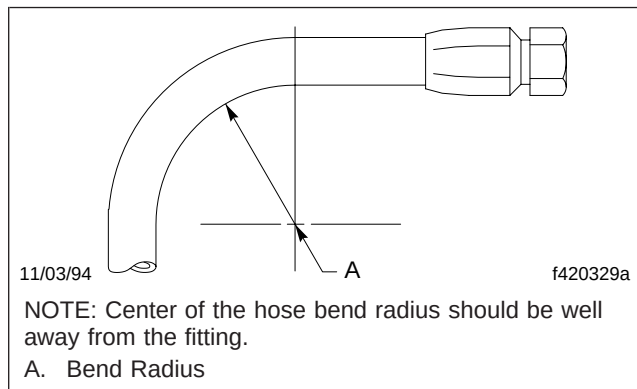

Fig. 9.4, Bend Radius
- 35.9 Check the bend radii of all hoses. See **Fig. 9.4**. The minimum bend radius of a hose is that bend which the hose will withstand without experiencing damaging stresses or kinking. For minimum bend radius values, see **Group 42** of the *Cargo Workshop Manual*.